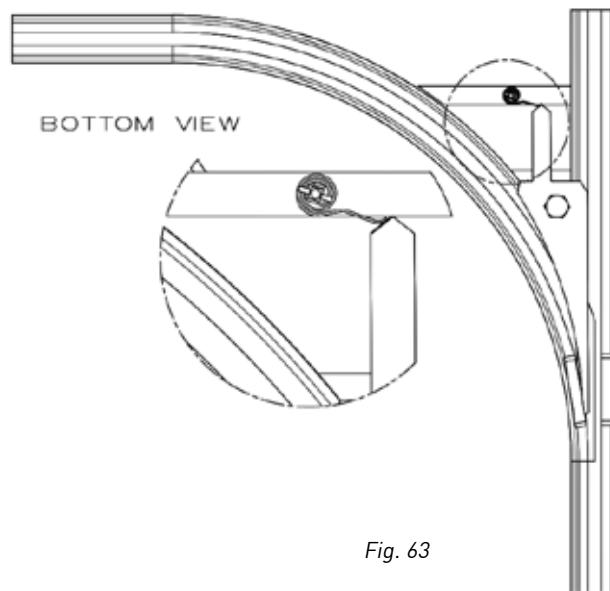

Fig. 63
- Annually, regrease the sliding surface of the swivel switch (hatched surfaces_fig. 63) and inspect the locking device. Regulate if necessary.